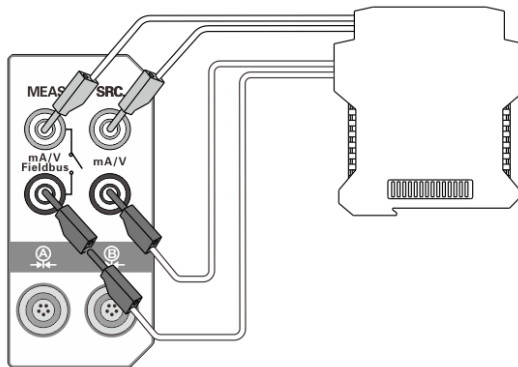

Figure 32 Calibration of the signal isolator
- ◆ Connect the calibrator and the valve opening gauge as shown in Figure 32.